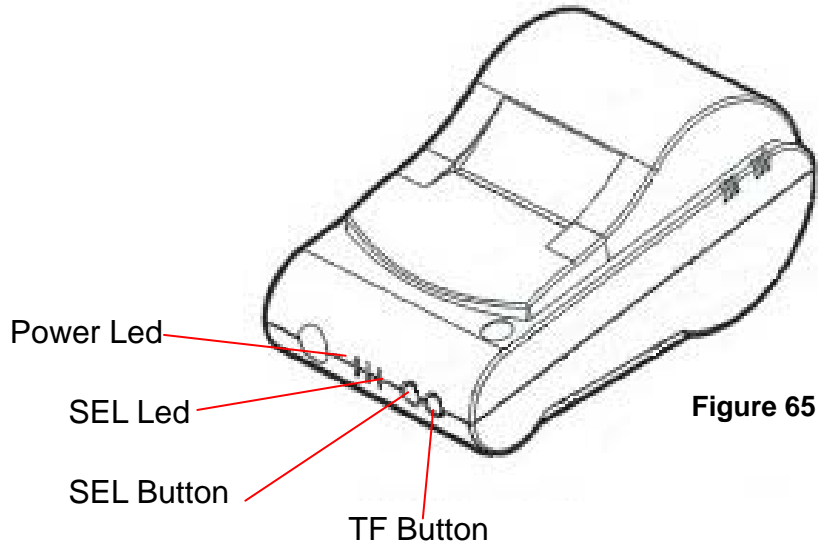

Figure 65
4. To advance the paper forward, the SEL LED should be OFF. Switch it OFF by pressing the SEL button once. Then, press TF button once the paper will scroll forward. (Fig. 65)
5. To start to print, SEL LED should light up. Activate it by pressing the SEL button again. (Fig. 65)